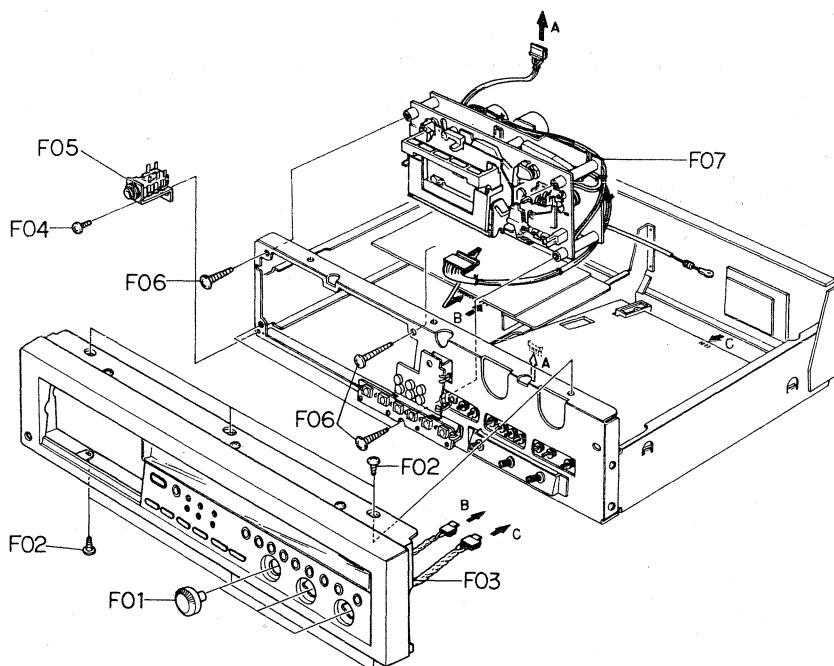

Fig. 3.2
Refer to Fig. 3.2.
- (1) Refer to Fig. 3.2. Remove Front Panel Ass'y referring to item 3.4.
- (2) Remove the Flat Cable and wires connected by wrapping from the F04 (Main P.C.B. Ass'y).
- (3) Remove F01, F02, F03 and the Record Switch Linkage from the Wire Holder assembled with Record Switch, then disassemble F04 (Main P.C.B. Ass'y).
- (2) Remove the connector and the wires connected by wrapping from the F06 (Logic P.C.B. Ass'y).
- (3) Remove F05, then disassemble F06 (Logic P.C.B. Ass'y).
- (2) Remove F09, then disassemble F10 (Volume P.C.B. Ass'y).
- (2) Remove F11, then disassemble F12 (Control Switch P.C.B. Ass'y).
- (2) Remove F13, then disassemble F14 (Record Cal. P.C.B. Ass'y).
- (2) Remove F01 and F02, then disassemble F03 (Meter Ass'y).
- (1) Refer to Fig. 3.2. Remove Mechanism Ass'y referring to item 3.5.
- (2) Push the Eject Button to open the Cassette Case Ass'y.
- (3) Remove F01 then disassemble the Piston of the Pneumatic Damper Ass'y.
- (4) Remove F02 and F03 (Cassette Case Holder L Ass'y), then disassemble F04 (Cassette Case Ass'y).
- (3) Remove F05, then disassemble F06 (Cover Plate Ass'y).
- (2) Remove F07, then disassemble F08 (Tape Counter Ass'y).
- (2) Remove F01 and F02, then disassemble F03 (Flywheel Holder Ass'y).
- (3) Remove F04, then disassemble F05 (Capstan Motor Ass'y) and F06 (Capstan Belt).
- (4) Remove F07 (Supply Flywheel Ass'y), then disassemble F08 (Take-up Flywheel Ass'y).
- (5) After removing both Flywheel Assemblies, disassemble F09 (Thrust Washer 3.1 mm), F10 (Thrust Washer 2.6 mm), F11 (Flange Thrust Cap) and F12 (Flange Thrust Spring).
- (2) Remove Flywheel Holder Ass'y and both Flywheel Assemblies referring to above step 3.20.
- (3) Remove F01 and F02, then disassemble F03 (Sub Mechanism Chassis Ass'y).